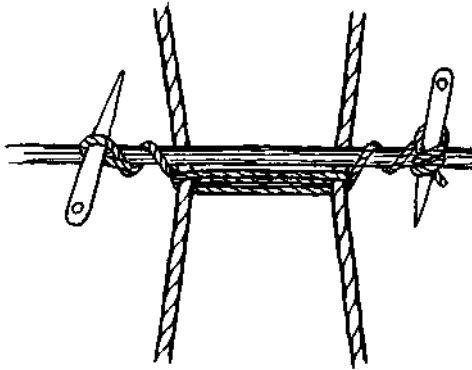

Fig. 82
4. Insert a marline-spike in each 'dogged' eye and lever them round the bar until the ropes are tightly together (Fig. 82). It will be found that greasing